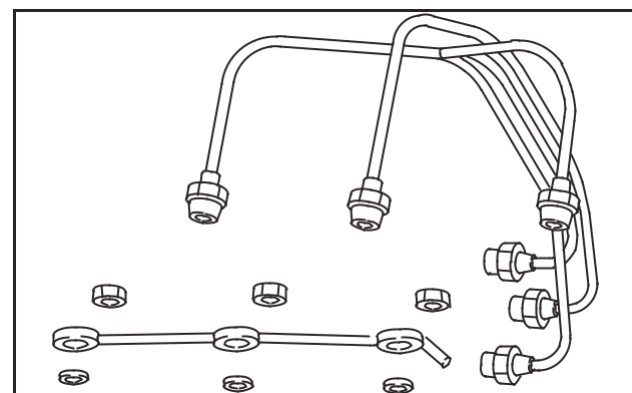

Fig. 12 – Removing Fuel Lines
1. Remove fuel delivery lines, Fig. 12.